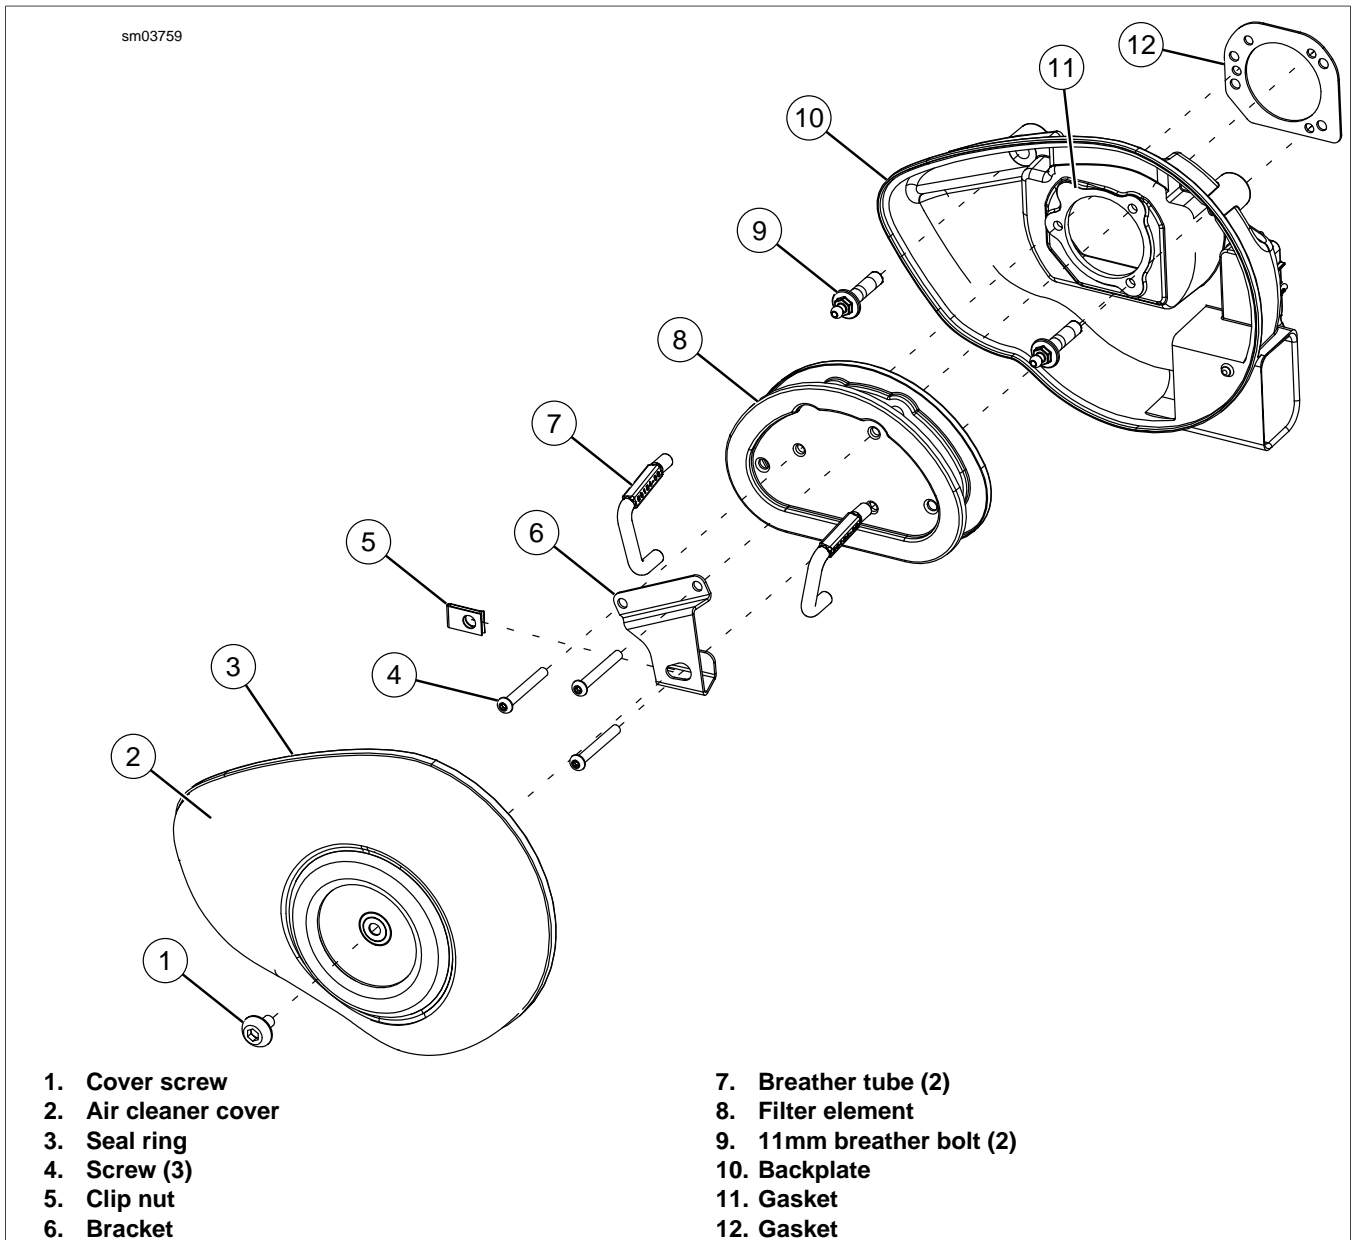

Figure 4-1. Air Cleaner Assembly
1. See Figure 4-1. Remove screw (1) and air cleaner cover (2).
2. Gently pull both rubber breather tubes (7) from the element.
3. Slide clip-nut (5) to the left to allow access to third screw. Remove three screws (4), bracket (6) and filter element (8).
6. Inspect seal ring (3) for cracks or tears. Verify that it seals tightly to backplate. Replace as required.
7. Alternately back out both breather bolts (9) (metric) a few turns a time while pulling backplate (10) away from induction module.
8. Continue previous step until breather bolts are clear. Remove backplate (10), gasket (11) and gasket (12). Discard gaskets.
9. Wipe inside of air cleaner cover (2) and backplate (10) with damp cloth to remove dust.
1. See Figure 4-1. Position **new** gasket (12) on backplate. Insert two breather bolts (9) (metric) into backplate. Thread bolts loosely into each cylinder head. Final tighten bolts to 22-24 ft-lbs (29.8-32.5 Nm).
2. Position **new** gasket (11) on filter element (8). Make sure gasket holes are aligned with screw holes.
3. Attach breather tubes (7) to breather screws on backplate.
4. Install air filter element (8) and bracket (6) using three screws (4). Tighten to 40-60 **in-lbs** (4.5-6.8 Nm). Slide clip-nut (5) to the right and into place.
5. Insert breather tubes (7) into holes in filter element.
6. Install air filter cover (2).
- a. Apply a drop of LOCTITE THREADLOCKER 243 (blue) to threads of air cleaner cover screw (1).